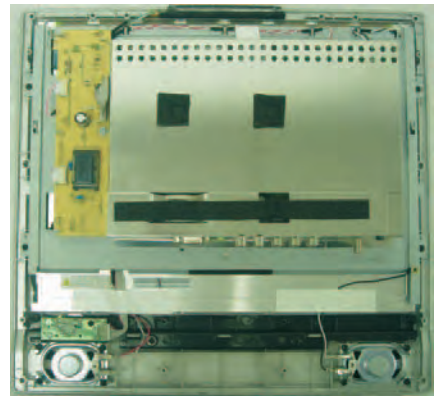

Fig.4
- b. Remove the back cover as Fig.4.